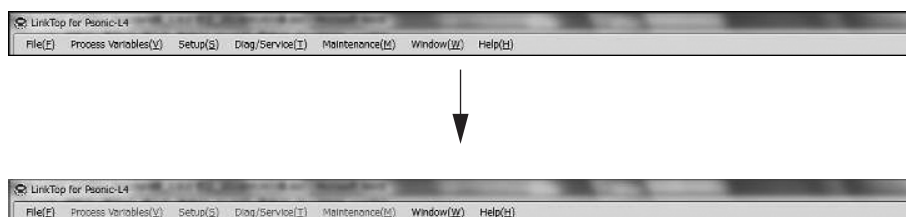

Fig. 3-15
- (3) When connection is terminated, some functions of the menu become inactive (characters will change to white) as shown in Fig. 3-15.